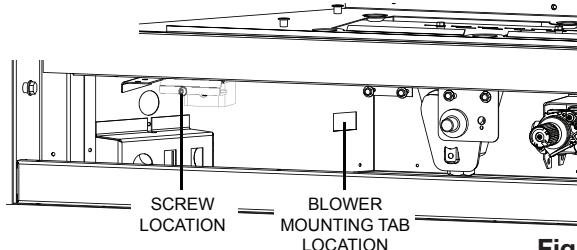

Fig. 1
6. Pivot the blower into the bottom of the appliance, ensuring the gasket remains in place between the blower and outer shell while sliding the blower against the left side of the outer shell into the blower mounting tab. Secure in place using one screw (**Fig. 1 and 2**).